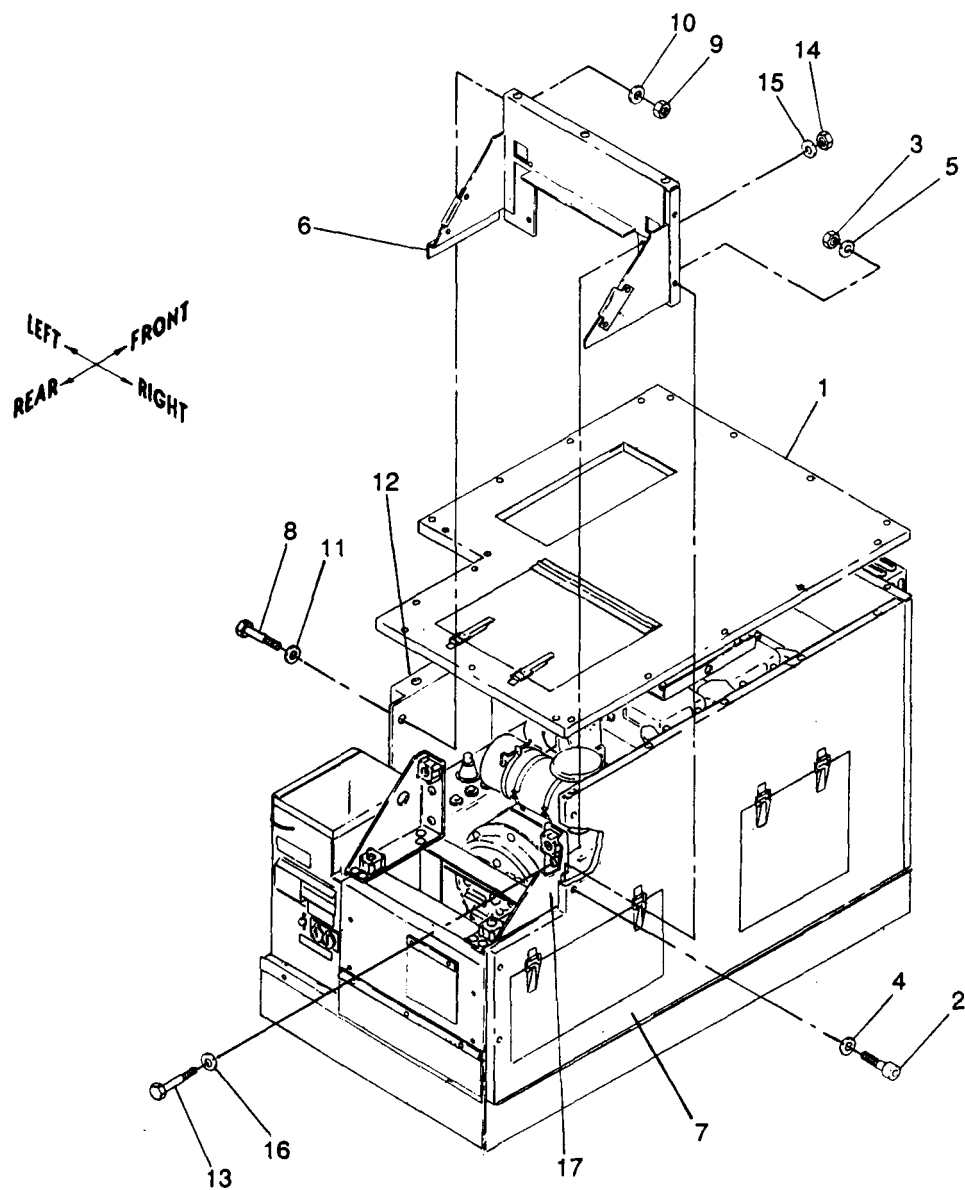

Figure 5-10. Rear Closure Assembly, Removal and Installation
a. Removal. See figure 5-10. Remove rear closure assembly from control box support, side closure assembly, right panel and top panel assemblies as follows:
(1) Remove top panel assembly (1) as described in paragraph 5-4.
(2) Remove two screws (2) and locknuts (3), and four washers (4 and 5) securing rear closure assembly (6) to right panel assembly (7).
(3) Remove two screws (8) and locknuts (9), and four washers (10 and 11) securing side closure assembly (12) to rear closure assembly (6).
(4) Remove four screws (13) and locknuts (14), and eight washers (15 and 16) securing rear closure assembly (6) to mounting brackets (17) and remove rear closure assembly (6).
b. Installation. See figure 5-10. Install rear closure assembly to control box support, side closure assembly, right panel and top panel assemblies as follows:
(1) Install four screws (13) and locknuts (14), and eight washers (15 and 16) securing rear closure assembly (6) to mounting brackets (17).
(2) Install two screws (8) and locknuts (9), and four washers (10 and 11) securing side closure assembly (12) to rear closure assembly (6).
(3) Install two screws (2) and locknuts (3), and four washers (4 and 5) securing rear closure assembly (6) to right panel assembly (7).
(4) Torque screws (2, 13, and 8) to 16 \pm 2 ft-lbs dry.
(5) Install top panel assembly (1) as described in paragraph 5-4.
(5) Rear Closure Assembly (refer to figure 5-10, item 6).